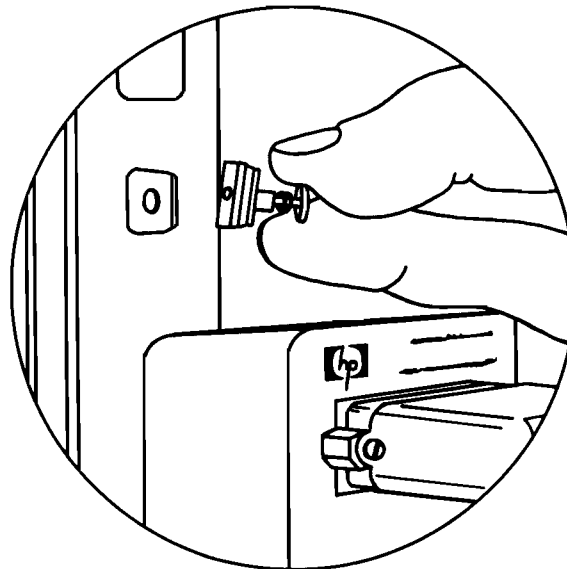

Figure 2-7 Securing The Connector Panel
- d) Secure the connector panel in position by tightening the fixing plate to the top lug as shown in Figure 2-7.